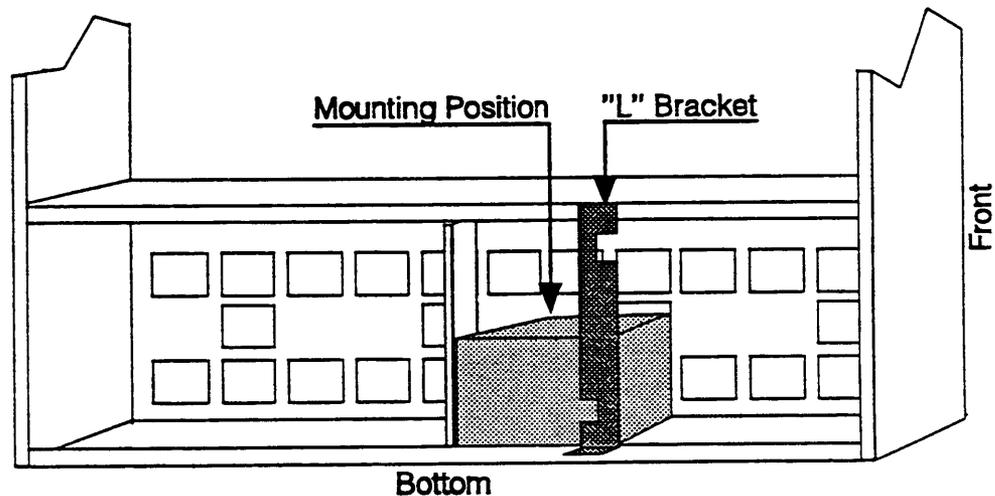
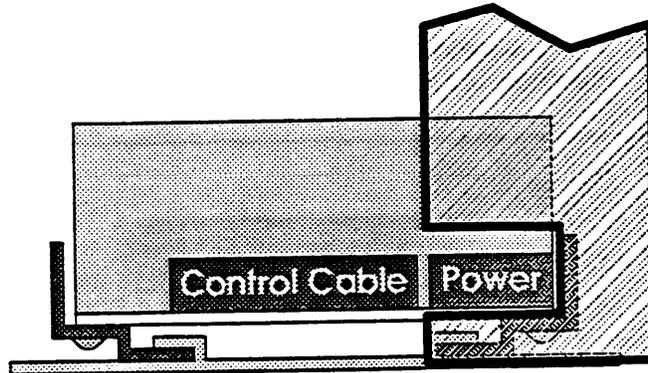

Figure 3-15. Location of Hard Disk Drive
Figure 3-17. Attaching Hard Disk Drive "L" Bracket
6. The hard disk drive is mounted in one of the bays at the bottom of the system unit as shown in Figure 3-15.
11. Slide the new hard disk drive into the same bay as shown in Figure 3-15. It may be necessary to lift the hard disk drive slightly as you slide it in because there is tight clearance on the screw heads holding the mounting rails.
12. Attach the "L" bracket carefully, **exactly** as shown in Figure 3-15 and Figure 3-17.